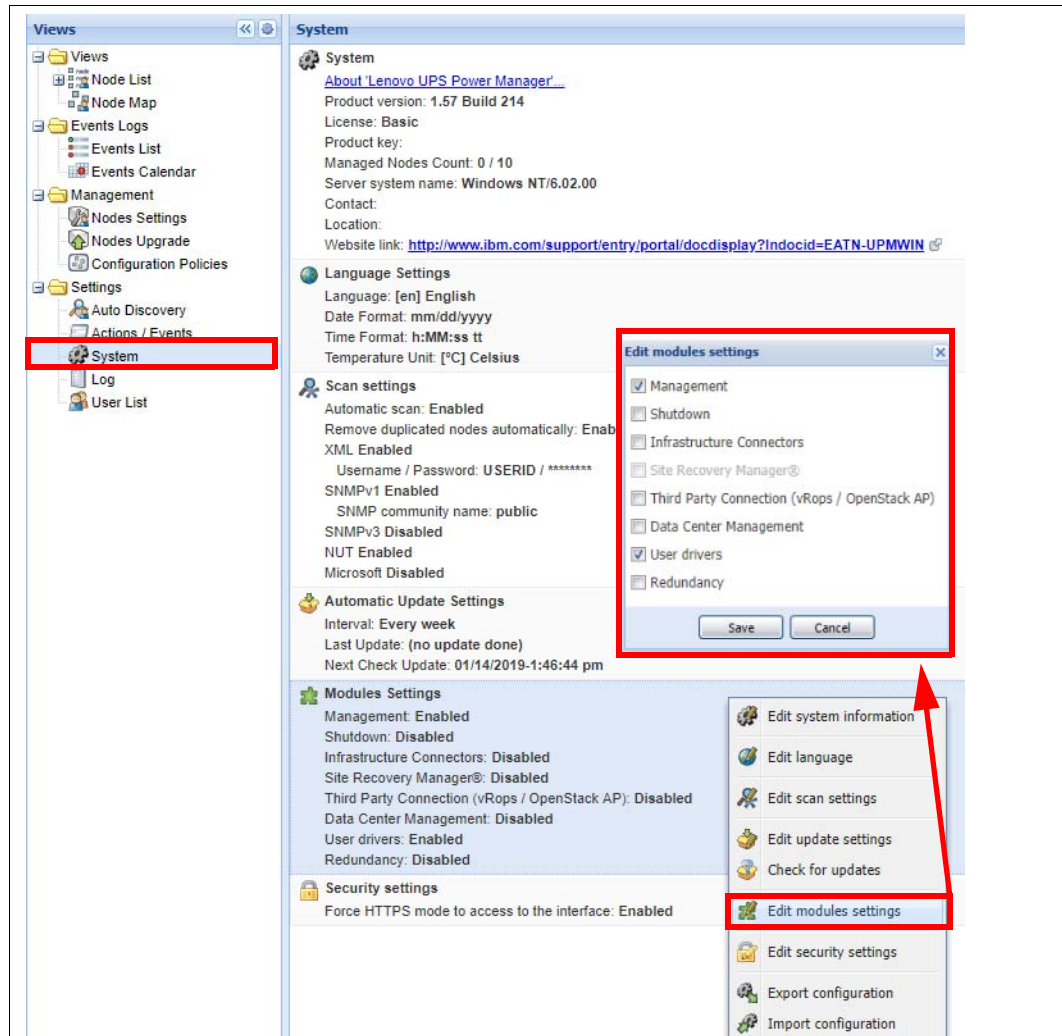

Figure 36 System - edit module settings
1. Click on **System** on the left hand menu, then right click anywhere in the main screen and select **Edit modules settings**, as shown in Figure 36 on page 44.
2. In the Edit modules settings dialog shown in Figure 36, click the features you wish to enable.